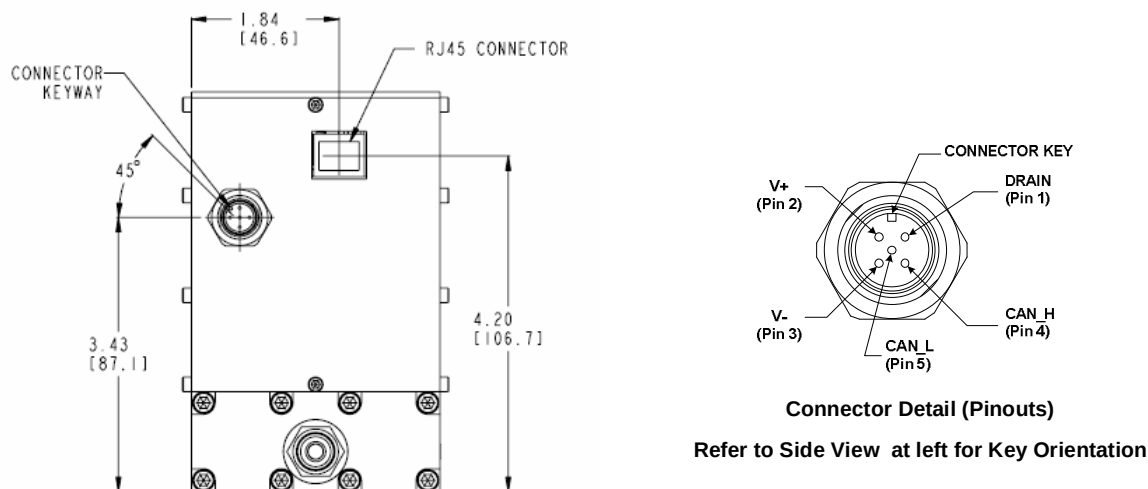

Figure 3: Inlet Side View of the MKS DELTA II Flow Ratio Controller (Devicenet)
Refer to Figures 3 through 7, pages 18 through 20 for outline dimensions and for mounting dimensions of the ratio flow controller.
4. Verify the power and signal pinouts for the cable leading to the Delta II Flow Ratio Controller. See Connector Detail in Figure 3 for 5 pin microconnector pinouts.